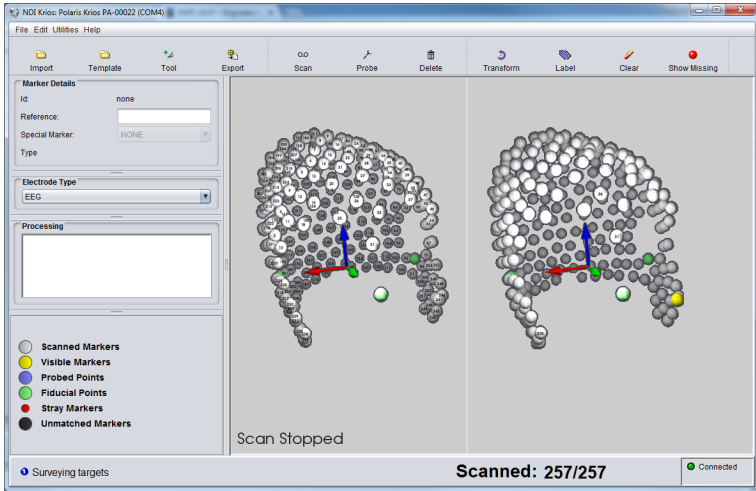

Figure 3-10 Label Assist with Unlabelled Point Cloud
2. Select **Label**. This presents the Label Assist view, with the labelled template on the left and the unlabelled point cloud on the right. See Figure 3-10.